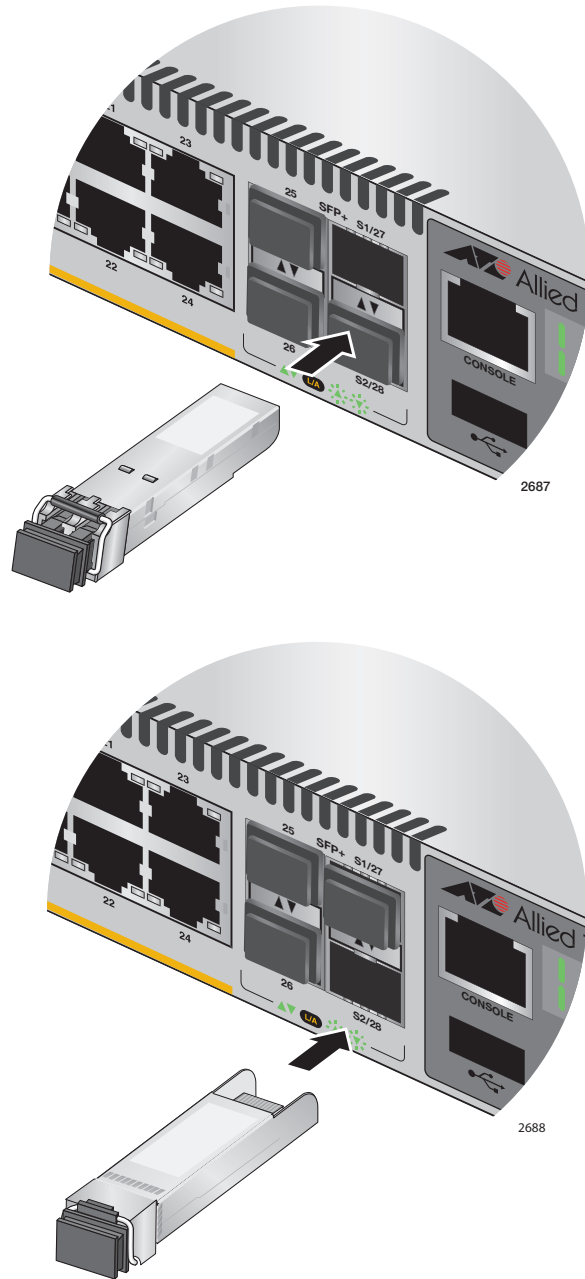

Figure 56. Installing the AT-StackOP/0.3 or AT-StackOP/9.0 Transceiver
- Slide the transceiver into the slot until it clicks into place, as shown in Figure 56 on page 98.